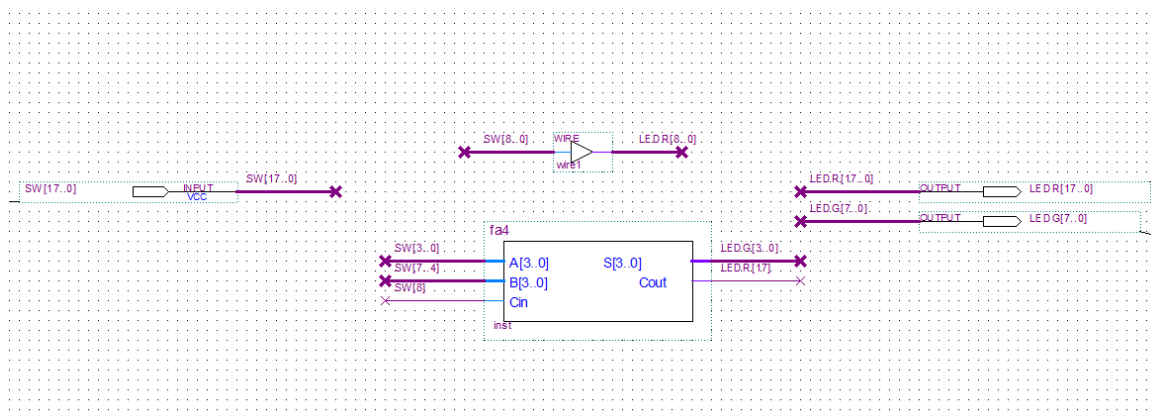

Figure 19
- 60) Complete top_level.bdf so that it looks like Figure 19. This schematic uses connection by name when connecting the full adder to the input pins. When two wires have the same name, Quartus assumes that the two wires are connected. Connection by name allows for cleaner, more readable schematics.